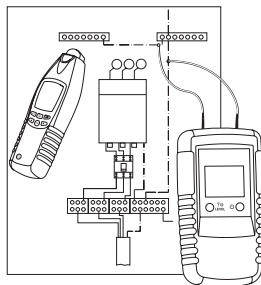

figure 13
- Connect the transmitter to the system as shown in the figure 13. Now, the neutral conductor, being present within the total system, may be followed.